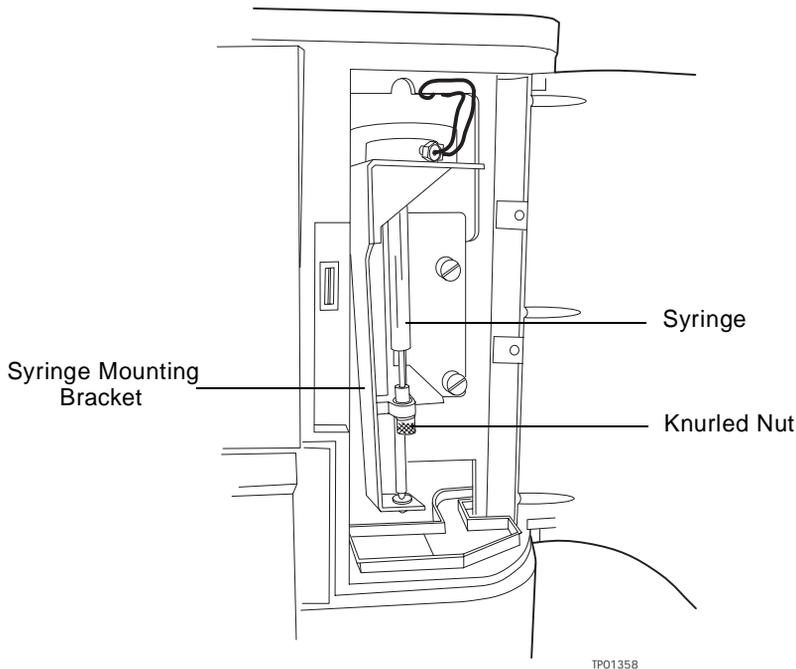

Figure 7-10 Syringe Assembly Components
3. Remove the knurled nut that holds the syringe barrel to the syringe mounting bracket (Figure 7-10).